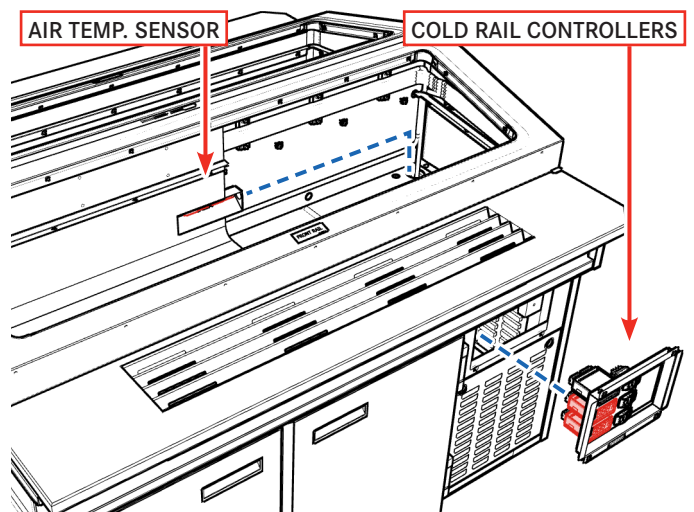

Fig. 26
2. Disconnect air temperature sensor wiring from appropriate cold rail controller (refer to Fig. 26 and *Power ON/OFF Switches & Controllers*, page 5).